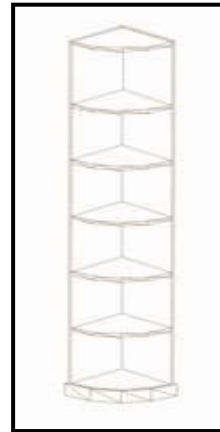

**Figure 13**
Your soffit arch consists of four sections, (1) bottom panel, (2) side panels, and (1) top soffit arch. Refer to **Figure 13** below